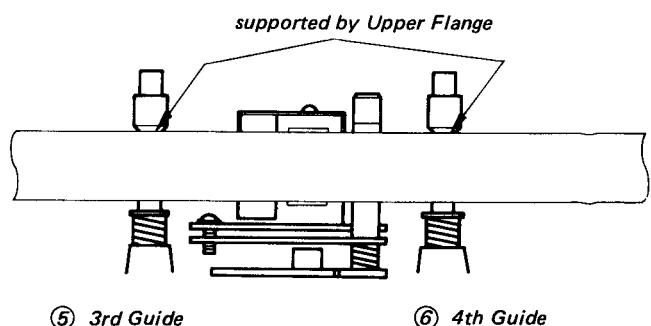

Fig. 5-116 Exit Side Tape Path
- Proceed Exit guide adjustment. (refer to Fig. 5-116)
**5-b. Exit side adjustment (Fig. 5-116)**
2. The tilt adjustment screw ⑤ should be adjusted by a half quarter turn since the audio/control head assembly is adjusted critically in the vertical angle.
3. Do not tighten the 4th guide ⑥ too much since the audio level should be varied easily. (see Fig. 5-116)